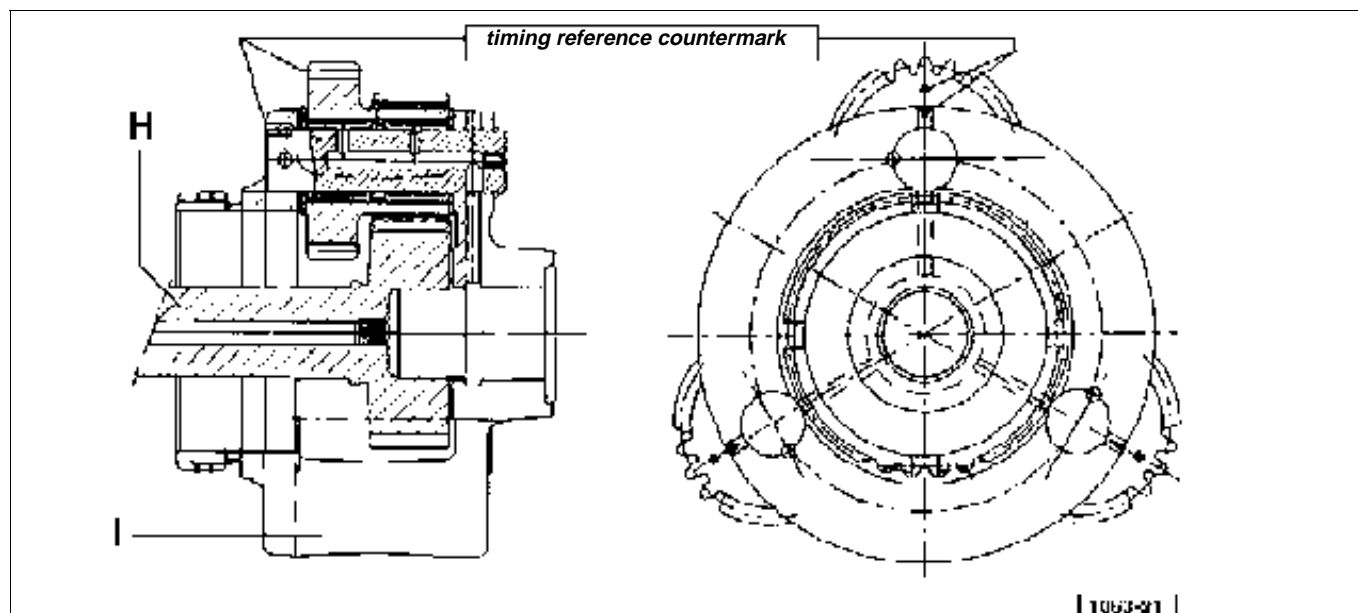

Fig. 8 - Timing the epicyclic speed reducer of the AGROSHIFT unit.
- Working at the bench, preassemble the LOW shaft **H** p/n 007.6139.3/40 with the planet carrier flange **I** p/n 008.5677.0 (Fig 8).
- When fitted to the shaft, the planet wheels must be positioned so that the punched countermarks coincide with the reference marks on the planet carrier flange (Fig 8).